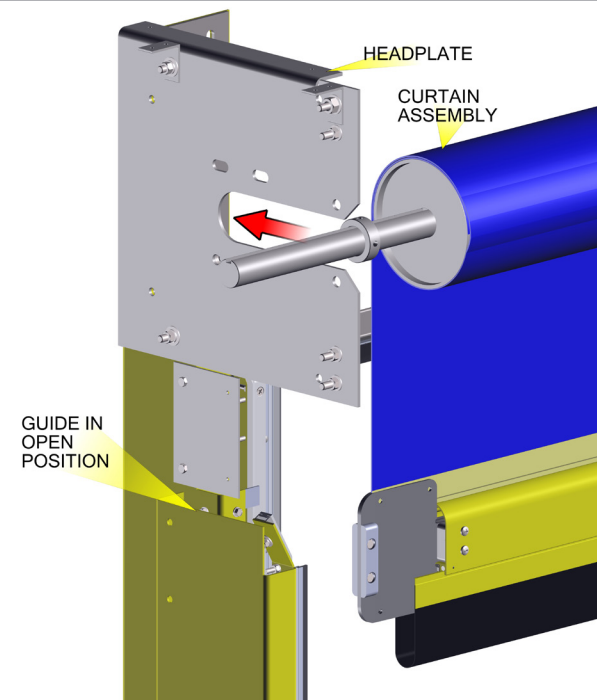

Figure 9
- Lift the curtain assembly using a fork lift or other appropriate lifting equipment and slide it into the slots in the headplates, as shown in **Figure 9**.